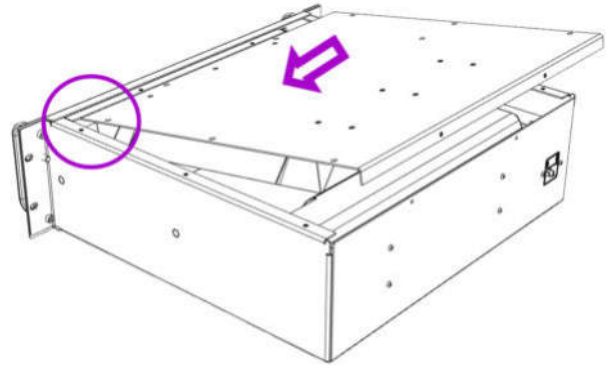

Fig. 20
1. Put the upper housing lid on the front left edge of the housing. (Fig. 20)